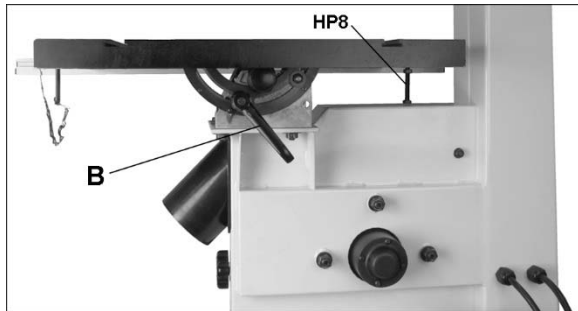

Figure 7-3: table tilt
Refer to Figure 7-3.
2. Loosen lock handle (B, Figure 7-3).
4. Tighten lock handle (B).